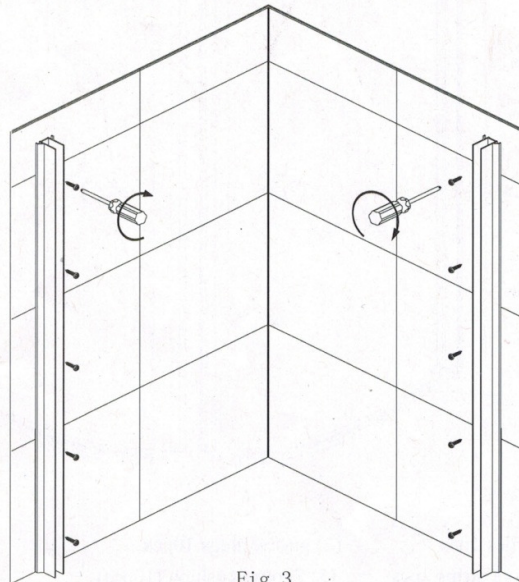

Fig. 3
- 3). Fix the wall connecting profiles with M4X45 screws, As FIG. 3